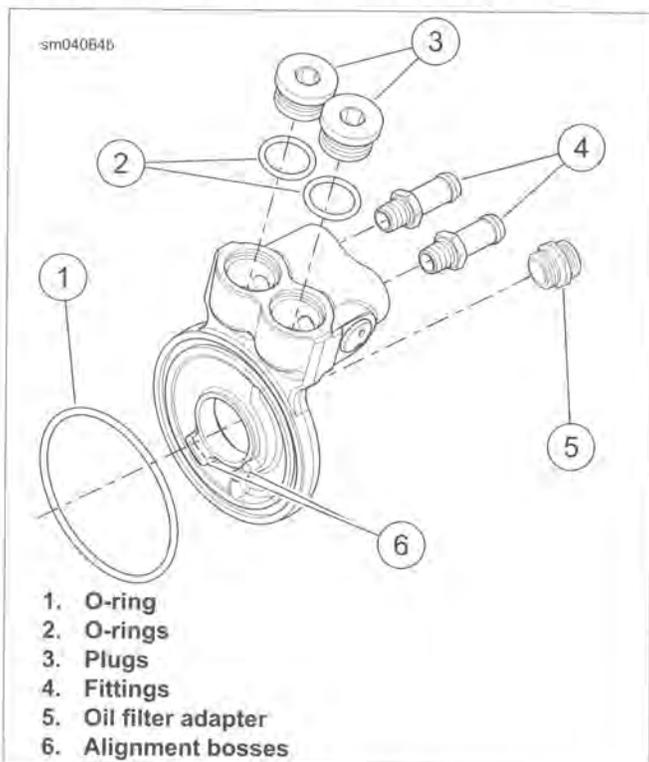

Figure 3-12. Oil Cooler Adapter
5. See Figure 3-12. Remove the oil filter adapter (5).
6. Remove the oil cooler adapter and O-ring (1).
1. See Figure 3-12. Remove plugs (3) and O-rings (2).
2. Remove oil cooler line fittings (4).
1. See Figure 3-12. Install plugs (3) and new O-rings (2).
2. Apply LOCTITE 565 THREAD SEALANT fittings (4). Install fittings:
2. See Figure 3-12. Apply LOCTITE 246 MEDIUM STRENGTH/HIGH TEMPERATURE THREADLOCKER (blue) to the threads of the oil filter adapter (5).
3. While holding oil cooler adapter in place, install the oil filter adapter (5) with the internal hex facing outward. Tighten to 18-22 ft-lbs (24.4-29.8 Nm).